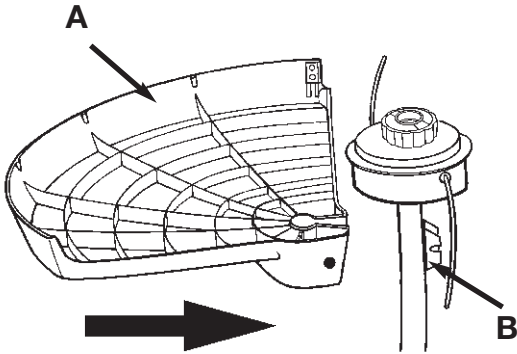

Fig. 1
1. Position the motor housing with string head carrier facing up (Figure 1).